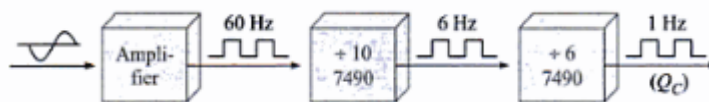

Figure 10.41:Divide-by-60 counter
- The TTL MSI 7490 decade counter can be used as a divide-by-10 counter and the TTL MSI 7492 can be used as a divide-by-6 counter. Cascading these two counters will provide a divide-by-60 counter.(Figure:10.41)